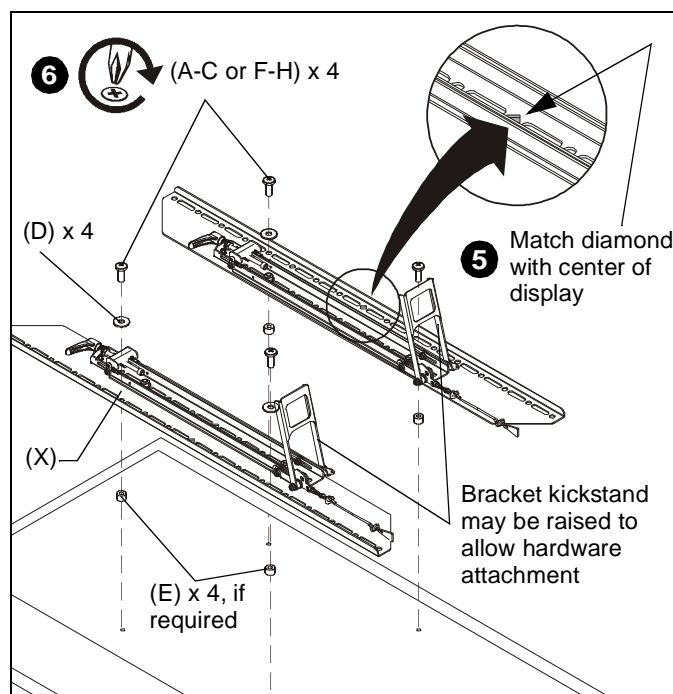

Figure 10
2. Select screw *diameter* by examining hardware (A-C and F-H) (6mm or 8mm) and comparing with mounting holes on display. (See Figure 10)
- Spacers are **NOT** required if mounting holes are not recessed and interface brackets (X) can lay flat against display.
- Spacers (E) **ARE** required if mounting holes are recessed, or if protrusions prevent interface brackets (X) from laying flat.
4. Select screw *length*: (See Figure 10)
- By hand, insert **SHORTEST** length screw of selected diameter (A or F) through 3/16" washer (D, if using screw A), bracket (X), selected spacer (E, if required), into display mounting hole. Do NOT thread screw into hole at this time.
5. Make sure diamond on interface brackets is even with center of display. (See Figure 10)
6. Use selected screws (A-C or F-H), washers (D, if using screws A, B or C) and spacers (E), if necessary, to connect interface brackets (X) to back of display. (See Figure 10)